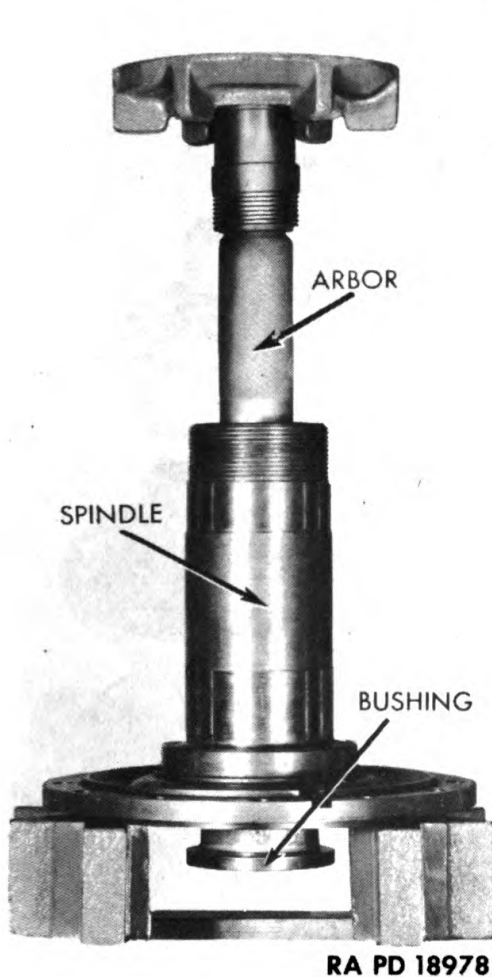
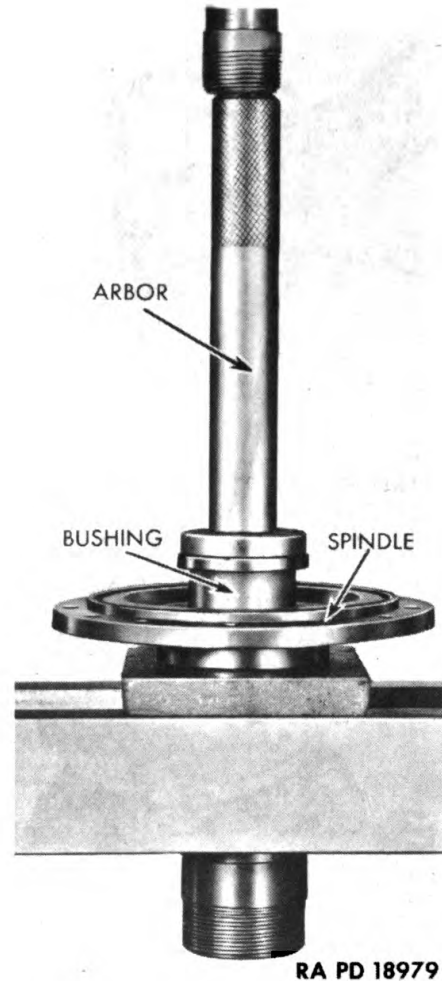

Figure 56 — Removing Wheel Spindle Bushing
Figure 57 — Installing Wheel Spindle Bushing
(1) **SPINDLE BUSHING.** The spindle contains a large sleeve bushing at the inner end. Use an adapter and a press to press this bushing out of spindle (fig. 56). Press new bushing into place in spindle, using adapter and press (fig. 57). Ream new bushings to 1.891 to 1.893 inches.